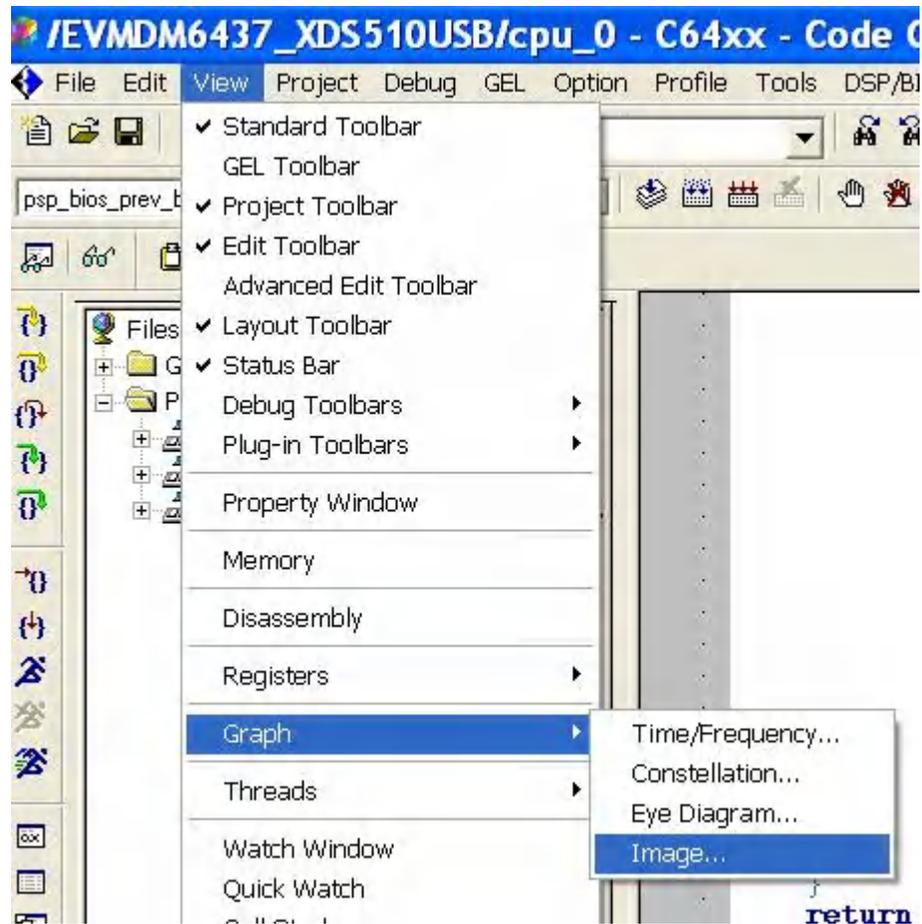

Figure 2. CCS View->Graph->Image
6. Now, the output image from Resizer can be viewed in CCS image viewer. To view the image, go to View->Graph->Image as shown in Figure 2.